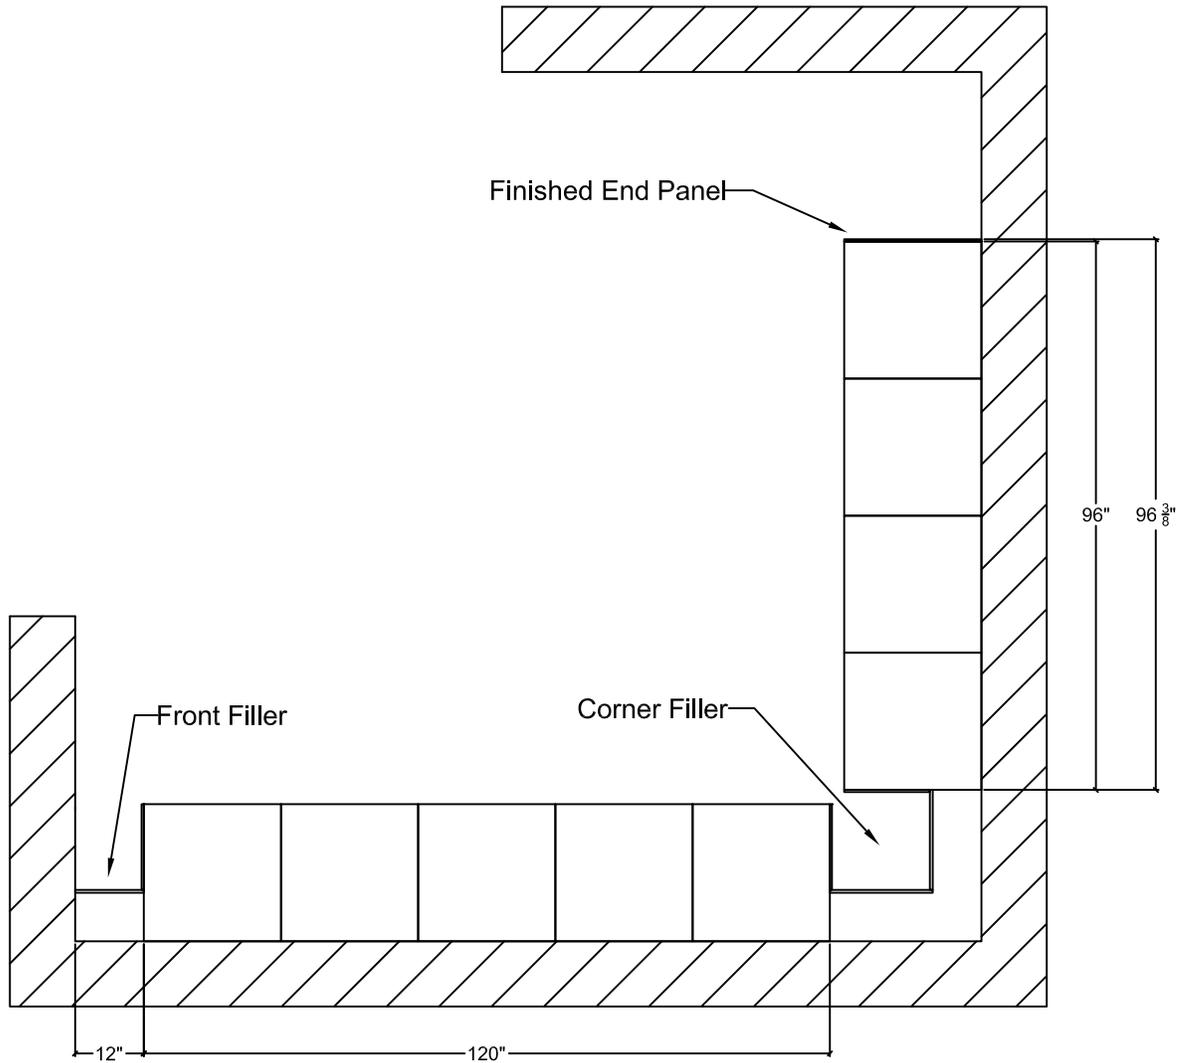

Figure 1.1: Example Top View layout Plan
- 3.1 Using the top view locker layout sheet, mark on the walls the starting and ending point of each run of lockers. See Figure 1.1.